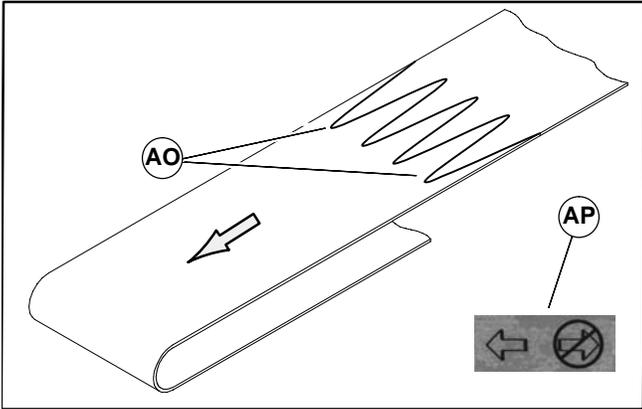

Figure 24
1. Orient belt so splice leading fingers (AO of Figure 24) point in the direction of belt travel as identified by the conveyor directional label (AP).
- Orient belt so splice leading fingers (AO of Figure 24) point in the direction of belt travel as identified by the conveyor directional label (AP).